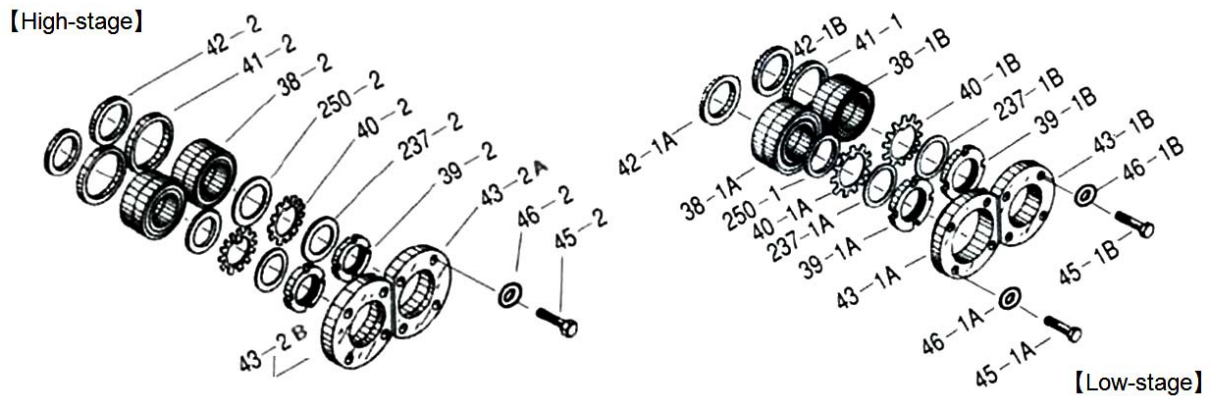

Figure 5-15 Thrust Bearing Block
a) The procedure for assembling this block is described in Figure 5-15. The important points are explained below.